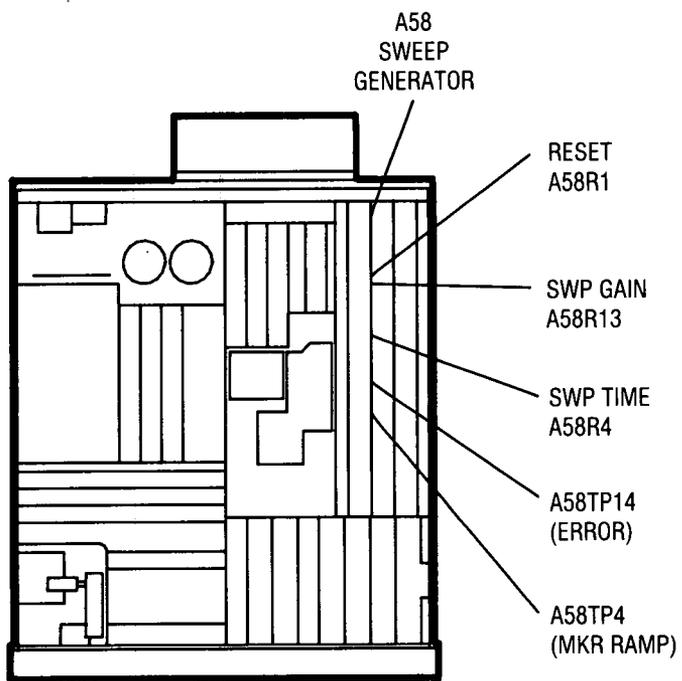
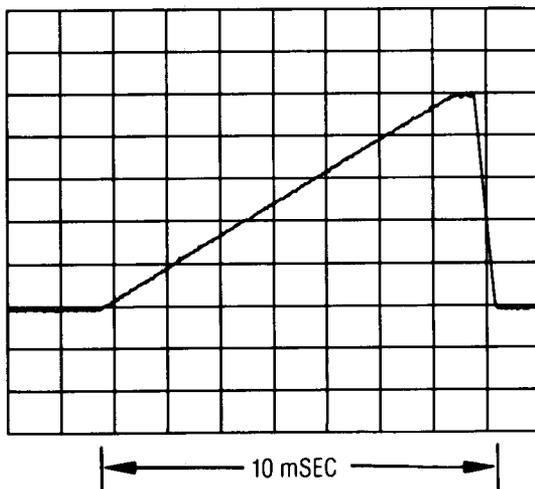
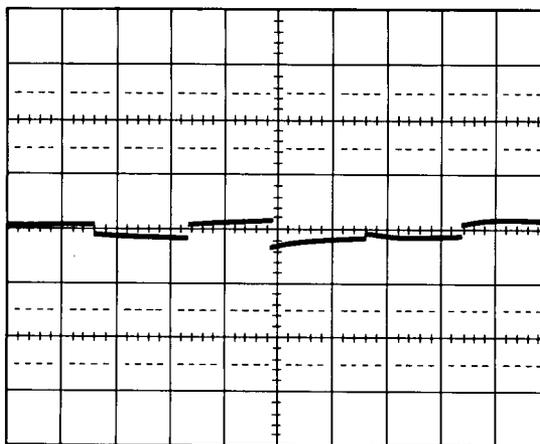

Figure 5-37. Sweep Generator Adjustments Location
Figure 5-38. Sweep Ramp at A58TP4
Figure 5-39. Reset Pulse Adjusted to Zero Volt Average
5. Adjust A58R4 (SWP TIME, Figure 5-37) for a 10 ms ramp on the oscilloscope (Figure 5-38).
8. Adjust A58R1 (RESET, Figure 5-37) for as close as possible to zero Volt average on the oscilloscope. (See Figure 5-39.)